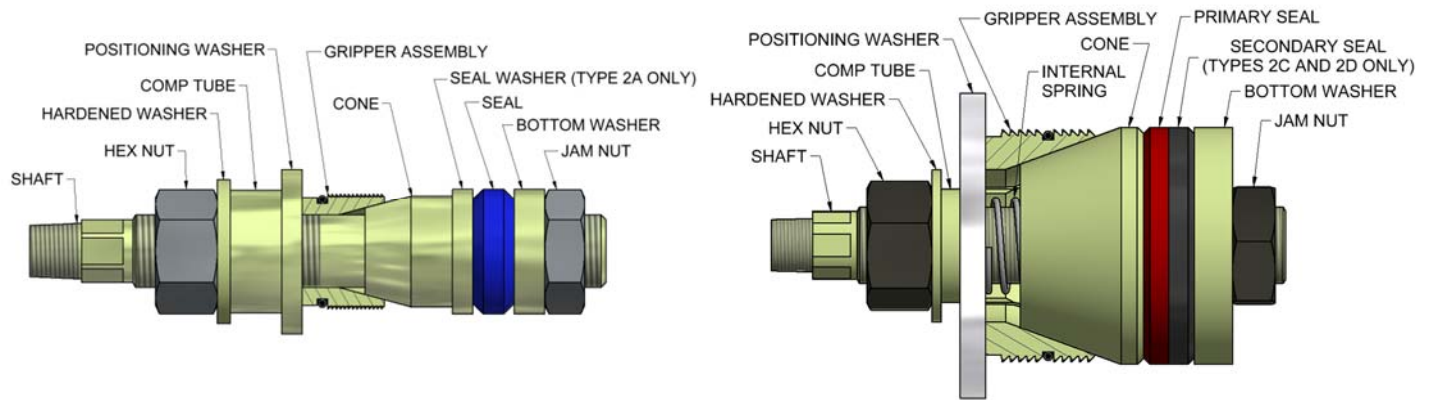

Figure 2: Type 2 (left) and Type 4 (right) GripTight MAX Test Plugs
- Type 4 GTMAX Plugs have two (2) Seals, a Primary Seal and a Secondary Seal. The Seals must be placed on the Plug in the correct configuration: Secondary Seal against the Bottom Washer, Primary Seal against the Cone. The chamfered edges should face away from each other. See Figure 2 for reference.